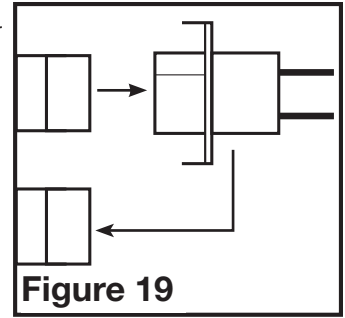

Figure 19
2. Disconnect the harness from the capacitor at the quick connect fitting and remove the "Boost Label" from the quick connect fitting on the boost capacitor (**Figure 19**).